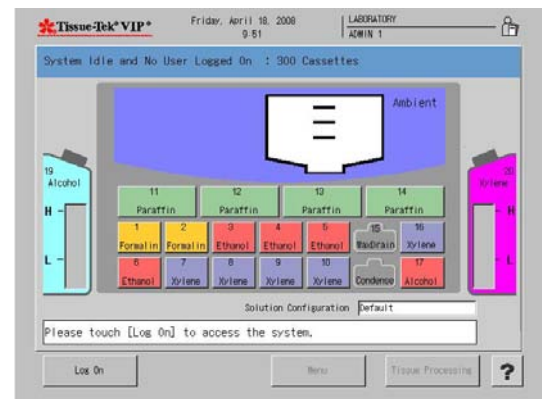

Figure 4-B
- If login is *successful*: The Process Monitor screen displays (Figure 4-B).